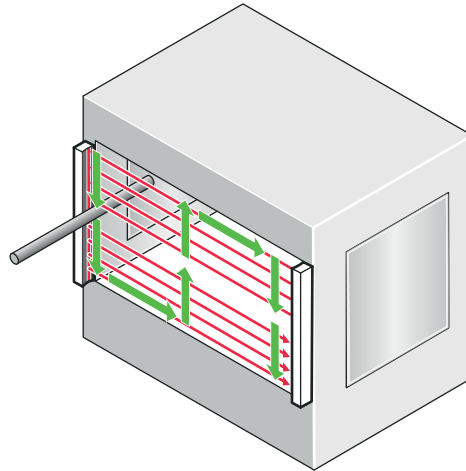

Figure 22: Test rod check: Step 1
1. Move the test rod slowly through the area to be protected (e.g., machine opening), as indicated by the arrow, see figure 22.